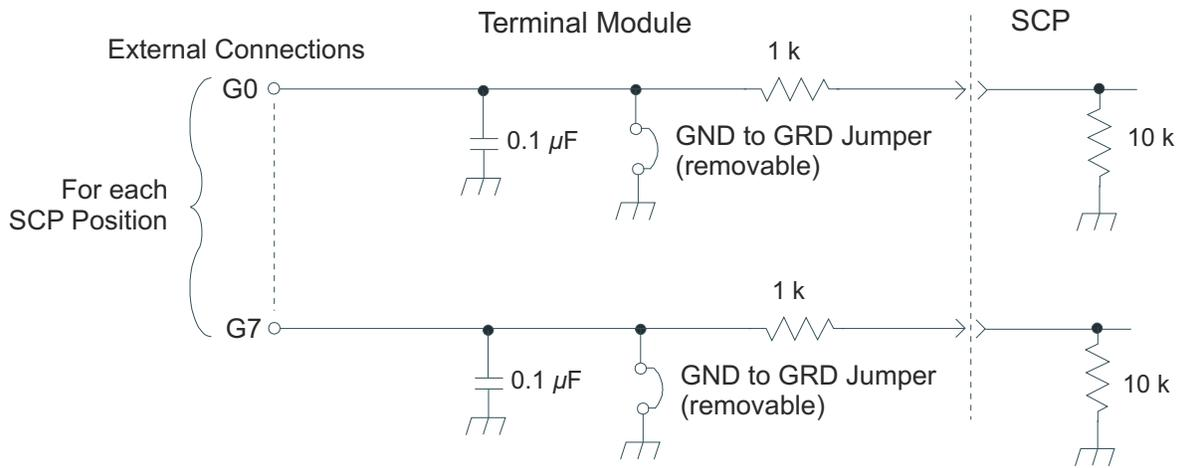

Figure 2-9: GRD/GND circuitry on Terminal Module
2. Connect the shield of each wiring pair to the corresponding Guard (G) terminal on the terminal module (see Figure 2-9 for schematic of Guard to Ground circuitry on the terminal module).